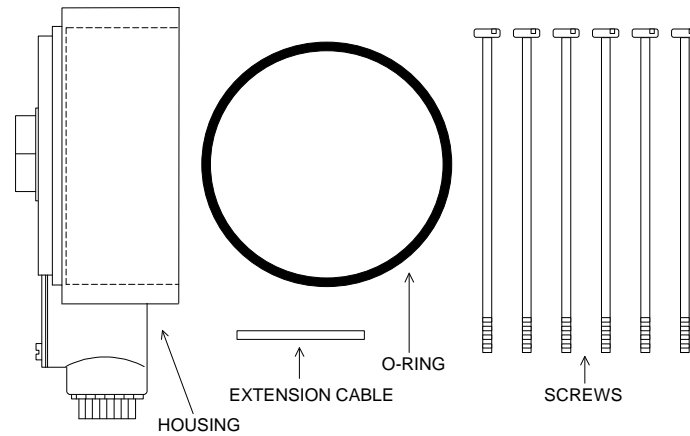

Figure 2. E7000 Retrofit Parts Kit
4. Finally, make sure that all parts are included in the shipment listed below and shown in figure 2.